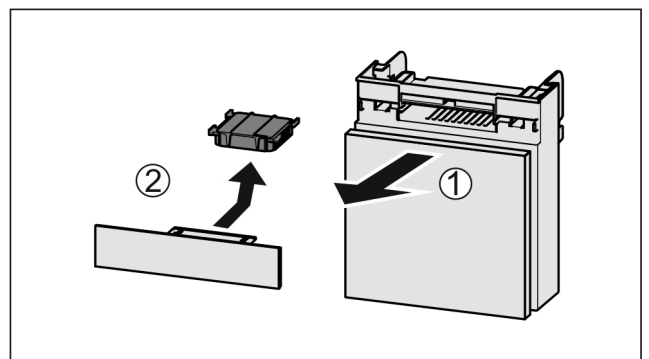

Fig. 185
- ▶ Pull out the compartment Fig. 185 (1).
- ▶ Remove the carbon filter Fig. 185 (2).